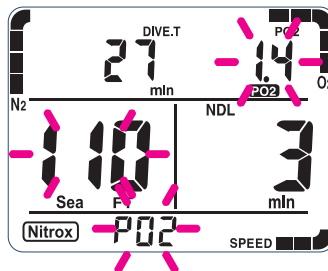

Figure 30
- **PO₂ warning:** The PO₂ warning has two levels. (Fig. 30)